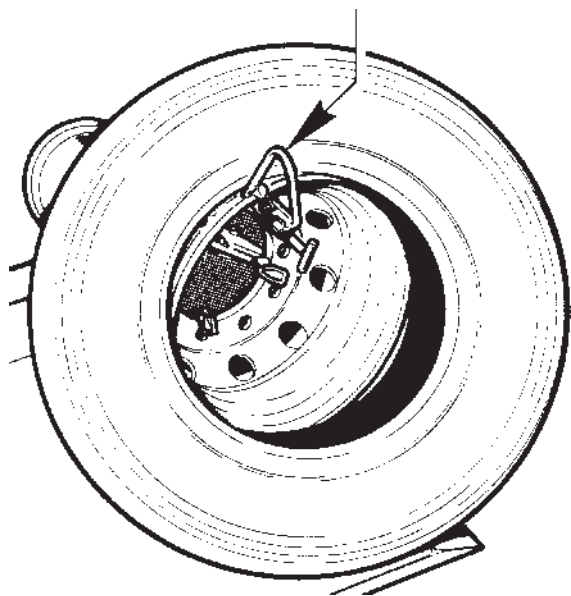

Fig.25
1. Hang the inner bead of the tire on the mounting clamp (Fig.25).